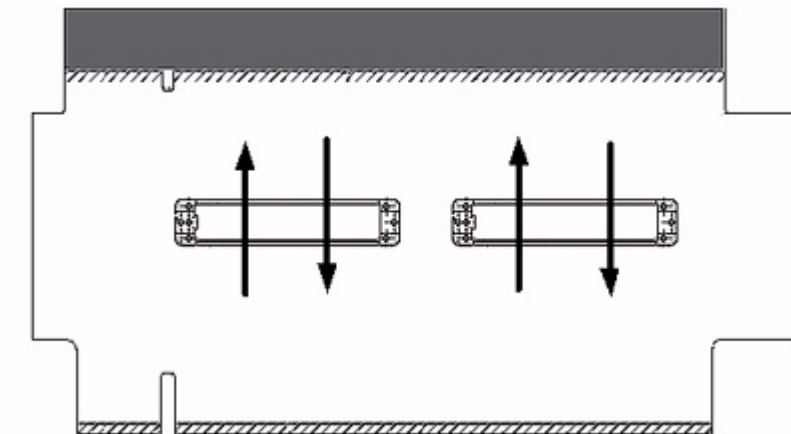

Figure 10 N5311-66416 Midbus Interposer Card
- **N5311-66416** (*x16 Midbus Interposer*). With this flavor of midbus interposer, only one N4242A Probes can be connected. This midbus interposer card routes lane 0 ... 7, bi-directional to the retention module on the left and lane 8...15, bi-directional to the retention module on the right (Figure 10).
The Agilent Technologies load model for the midbus is given in Figure 10. This model is subject to change. For the most current models, it is recommended that the platform designer contact Agilent Technologies directly.